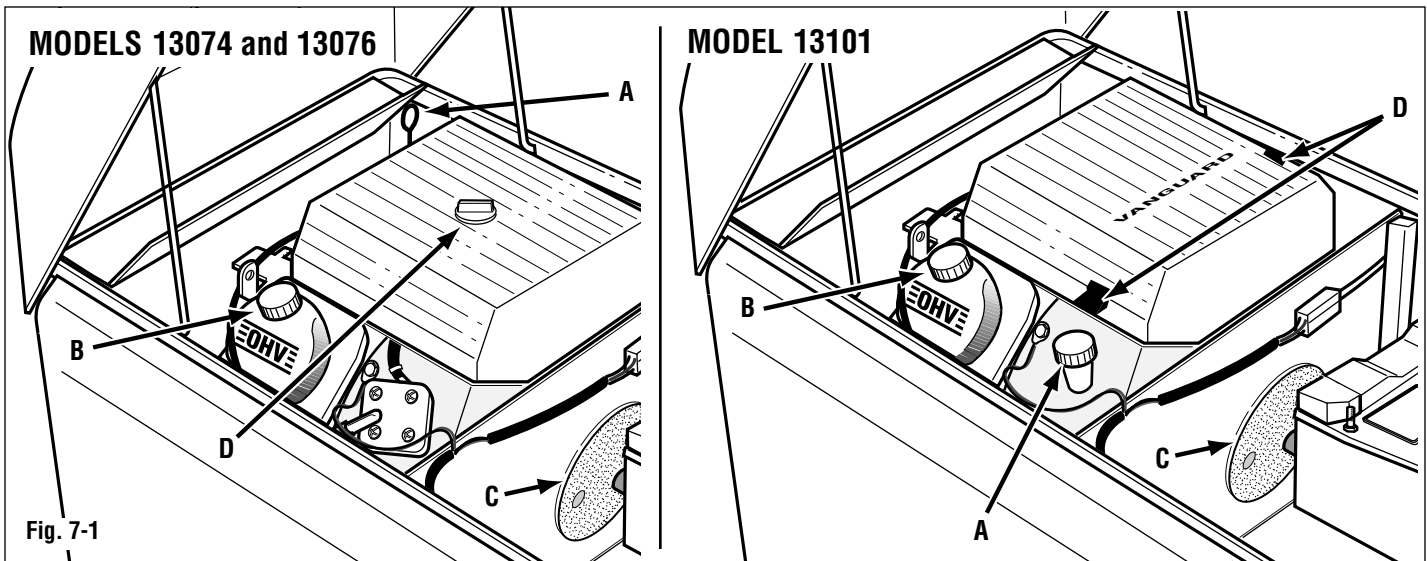

Fig. 7-1
Refer to your specific model in Figure 7-1.
1. Remove dipstick (A, Fig. 7-1).
3. Remove dipstick and check oil level. The oil level is indicated by marks on the dipstick. Keep level between the ("F" Full) and ("L" Add) marks. If level is low, fill engine crankcase through fill opening (B, Fig. 7-1).
5. Fill engine crankcase with oil at fill opening (B, Fig. 7-1). See engine manual for the correct oil type. Fill to level indicated on dipstick, between the ("F" Full) and ("L" Add) marks. **NEVER OVERFILL ENGINE CRANKCASE.** Capacity w/ filter – See engine manual.
STOP ENGINE BEFORE CLEANING AIR SCREEN! Check engine air intake screen (C, Fig. 7-1) for debris and clean regularly.
1. Clean dirt from around the air cleaner cover. Unscrew knob or unlatch clips (D, Fig. 7-1) and remove cover.
9. Place cleaned (or new) paper element (G) on engine. Secure with wing nut (F). Install cleaned, oiled foam pre-cleaner (E) over paper element.
10. Install cover and screw in knob or latch clips (D, Fig. 7-1) down.